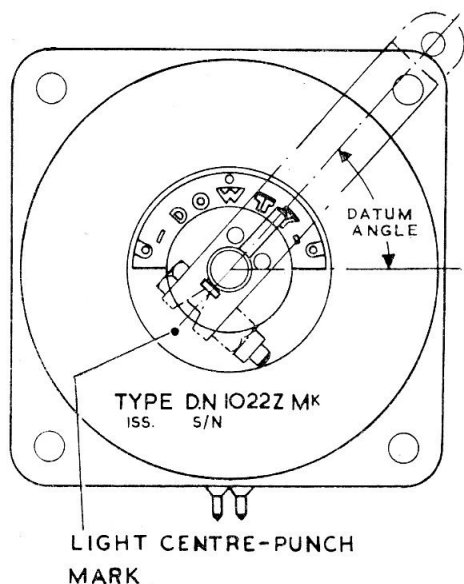

Fig. 2. Diagram showing datum angle
4. Fig. 2 shows the datum angle, a light centre-punch mark on the front of the switch indicates its position.